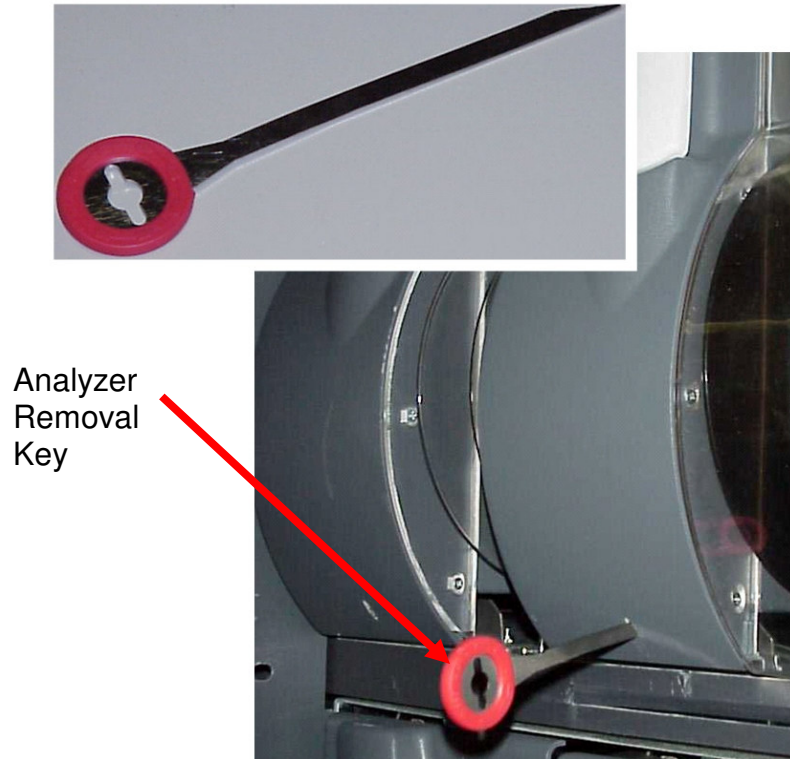

Figure 3 – Vertex Analyzer Removal Key and Slot Location
1. Manually release the Analyzer by sliding the Removal key into slot located in the bottom of the Analyzer front (key located in Software Binder shipped with each Vertex rack) and slide the Analyzer out of the cabinet. See Figure 3.